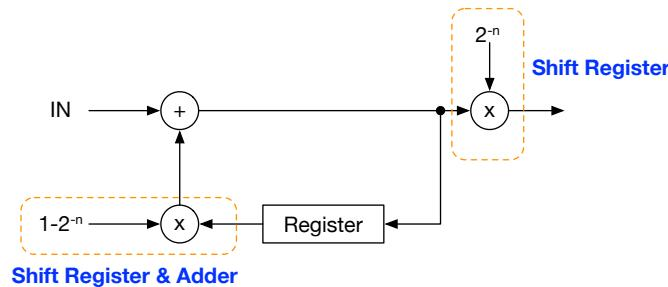

Figure 7. Single Pole Digital Filter Implementation
In addition to the SINC³ filter, a digital implementation of a simple, first-order, single pole (RC) filter is also included. The implementation is shown in Figure 7. This filter allows for much lower corner frequencies for the digital filter and the implementation does not require a fixed point multiplication stage. This filter always uses the corrected VREF value coming from the SINC³ filter. When enabled, the cell ADCs are run in continuous mode with the minimum interval setting, updating the uncorrected non filtered (VCELL*_HU, VCELL*_MU, and VCELL*_LU), the corrected non filtered (VCELL*_H and VCELL*_L), and the corrected and filtered (VCELL*_LF and VCELL*_HF) registers every time the host reads High byte (H).